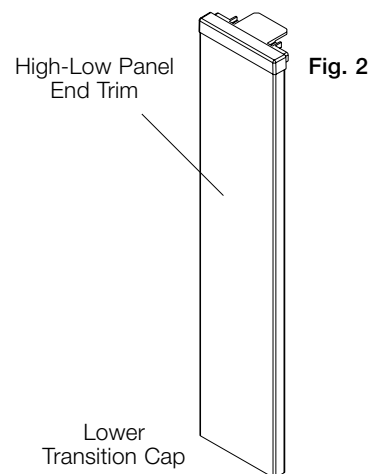

Fig. 2
2. Snap Panel End Trim on to panel, leaving approximately 1" between Panel End Trim and top of panel. (**Fig. 2**)
2. Insert Lower Transition Cap into High-Low Panel End Trim (Fig. 2)